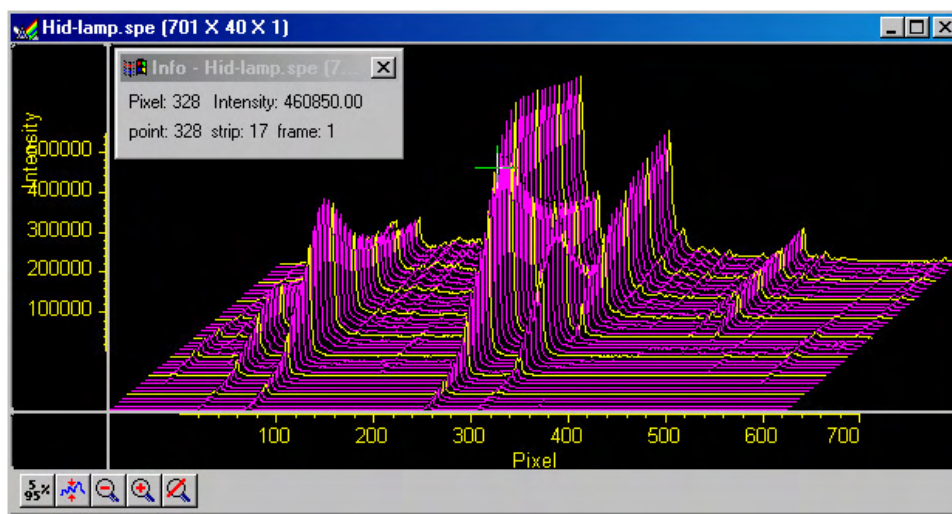

Figure 89. 3D Display with Cursor curve and Marker Curves
1. On the 3D Layout tab page, select **Highlight Cursor Curve** and **Marker Curves On**. Then press **OK**. The cursor curve and marker curves should be clearly delineated. Note that on a color monitor they would be in contrasting colors and much easier to see than in a black and white print as shown in Figure 89.